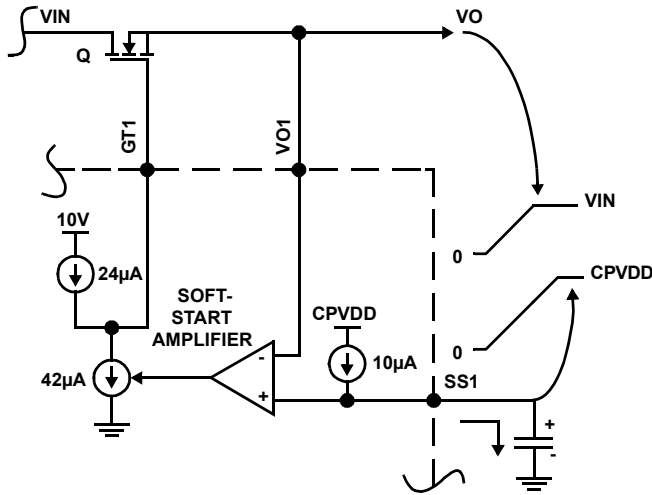

FIGURE 12. SOFT-START OPERATION
The output voltages are monitored through the Vo pins and slew up at a rate determined by the capacitors on the Soft-start (SS) pin, as illustrated in Figure 12. 24µA of gate charge current is available. The soft-start amplifier controls the output voltage by robbing some of the gate charge current thus slowing down the MOSFET enhancement. When the load voltage reaches its set level, as sensed by its respective UV pin through an external resistor divider, the Power Good (PG) output goes active.
I_{INRUSH} is the sum of the dc steady-state load current and the load capacitance charging current. If the dc steady-state load remains disabled until after the soft-start period expires ($\overline{PGX}$ could be used as a load enable signal, for example), then only the capacitor charging current should be used as I_{INRUSH} . The C_{SS} value should always be more than (1/2.4) of that of C_{ISS} of the MOSFET to ensure proper soft-start operation. This is because the C_{ISS} is charged from 24 μ A current source whereas the C_{SS} gets charged from a 10 μ A current source (please refer to Figure 12). In order to make sure both V_{SS} and V_O track during the soft-start, this condition is necessary.